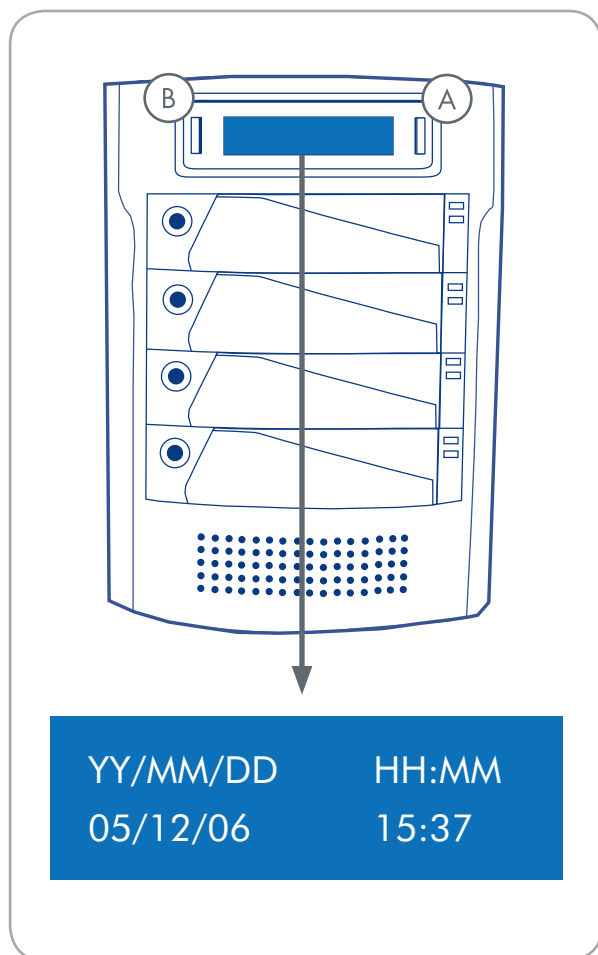

Fig. 4.4
To adjust the time and date values, use the **Scroll** button (B) on the left-side of the LCD Display to change the values (Fig. 4.4.A).